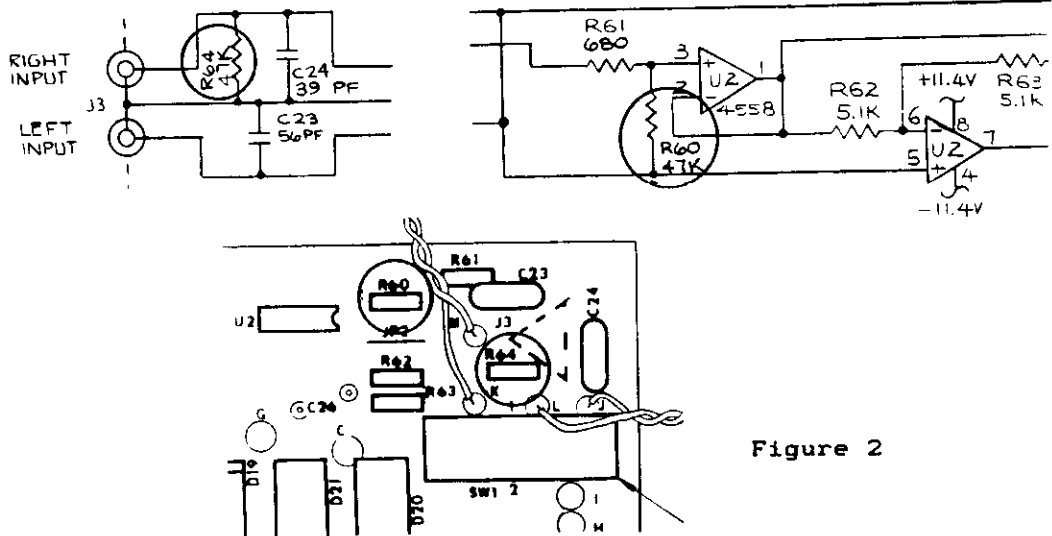

Figure 2
1. Replace R60 and R64 on the power supply board with 47k ohm 1/4W resistors (251-00110-00). See Figure 2.